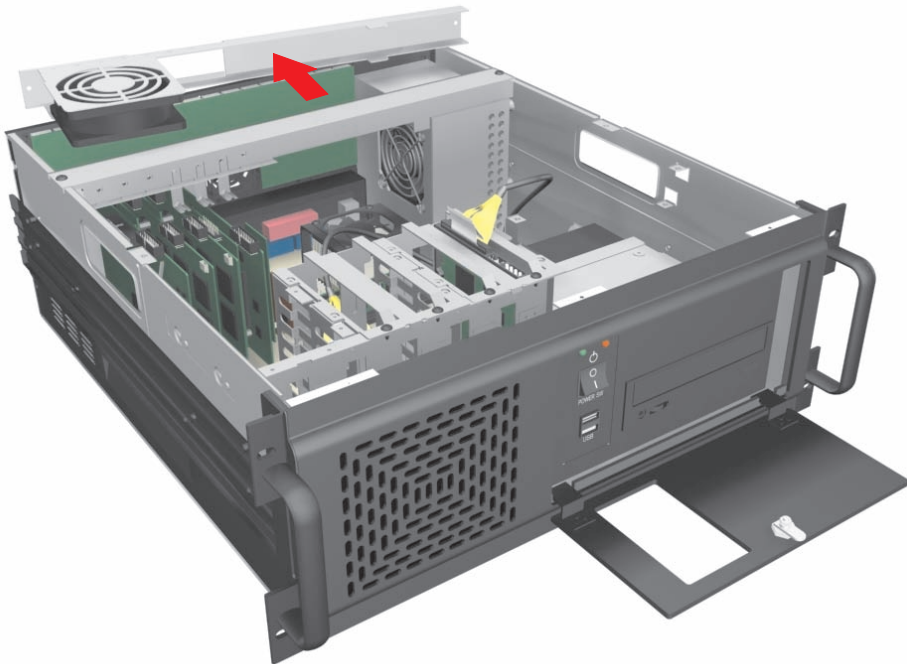

Figure 7. Placing Front Cross-Brace Across Rear of Unit
- b. Carefully place the cross-brace and fan across the rear section of the unit. Refer to Figure 7.